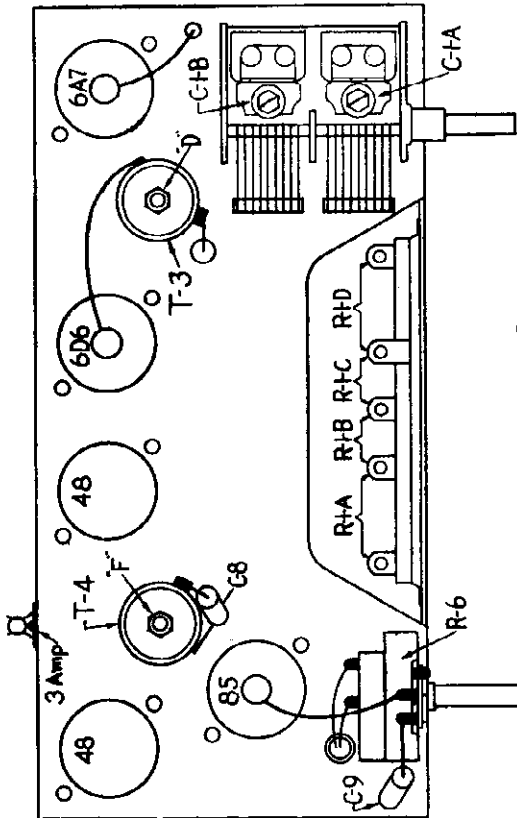
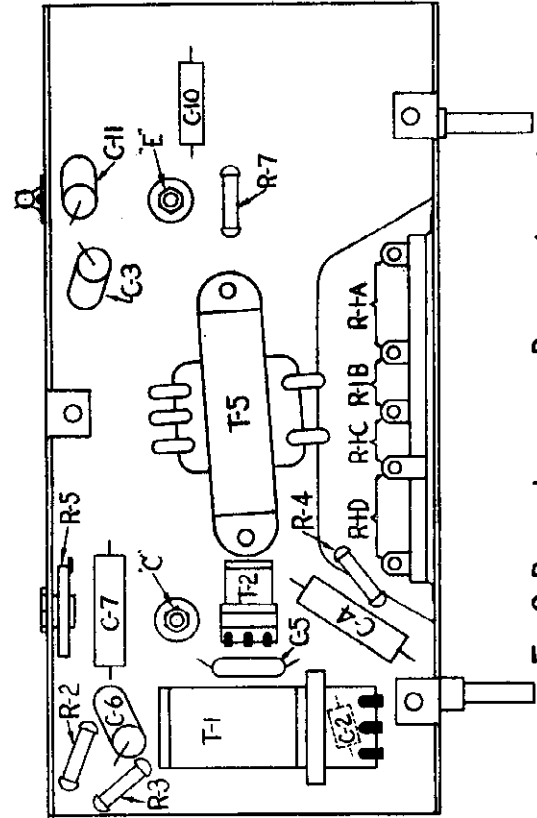

FIG. 2 PARTS LOCATING DIAGRAM (TOP)
FIG. 3 PARTS LOCATING DIAGRAM (BOTTOM)
(c) Peak the oscillator trimmer condenser shown as C-1-B on figure 2 until the oscillator output can be heard in the speaker. Then the trimmer C-1-A located on the adjacent section of the gang condenser, making all adjustments for maximum deflection on the output meter scale.
The R-5 resistor shown on figure 3 is a cathode bias resistor variable from 50 to 200 ohms. This resistor controls the residual bias on the 6A7 and 6D6 tubes and must be carefully adjusted. This may be accomplished by tuning the set to an extremely weak station and adjusting R-5 for maximum volume in the speaker.
- (d) Peak the I.F. trimmer located on the top of the 1st I.F. coil, designated as "D" on figure 3. Then peak the trimmer located on the bottom of the same coil designated as "C" on figure 2. Due to the detuning effect the primary winding exerts over the secondary, it will then be necessary to reset trimmer "D" for maximum output.
- (e) Peak the I.F. trimmer located on the top of the 2nd I.F. coil, designated as "F" on figure 3. Then peak the trimmer located on the bottom of the same coil designated as "E" on figure 2. Then reset trimmer "F" on top of the coil making all adjustments for maximum output.